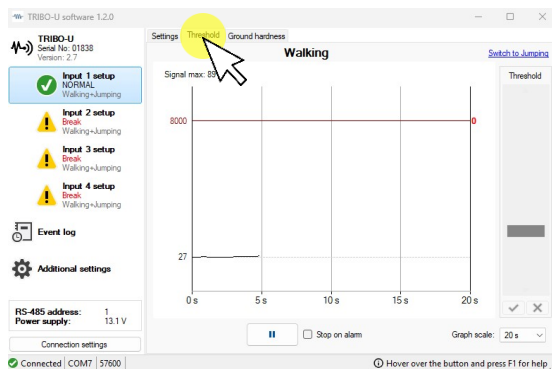

Fig. 20
- On the program screen click on the Threshold tab and select Walking. (Fig. 20)